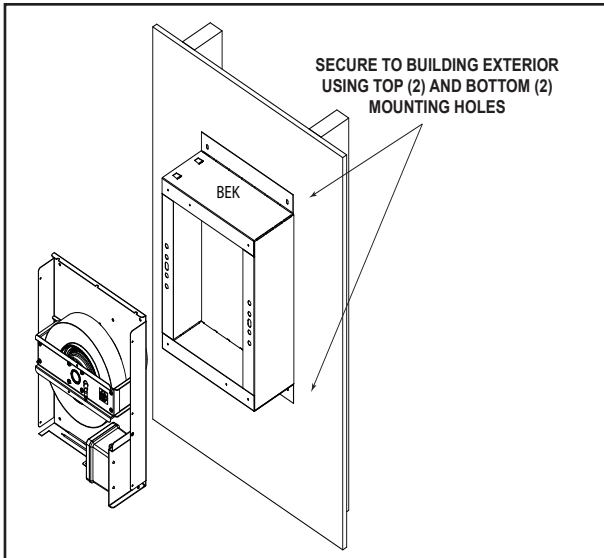
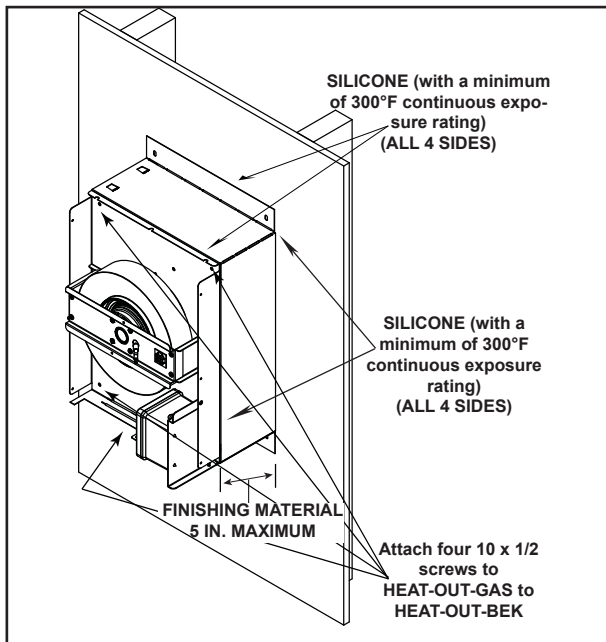
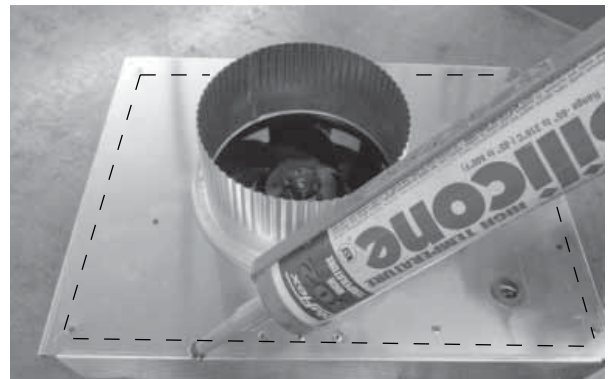

Figure 2.12 HEAT-OUT-GAS Attached to Heat-Out-BEK
Figure 2.13 Silicone Weather Sealing
Figure 2.14
13. Apply a bead of silicone (with a minimum of 300° F continuous exposure rating) around the entire metal flange of the HEAT-OUT-GAS. See Figure 2.14. Align with HEAT-OUT-BEK as shown in Figure 2.12. Ensure cap is level and square, then secure HEAT-OUT-GAS to Heat-Out-BEK as shown in Figure 2.13.
14. After the HEAT-OUT-GAS has been secured to the HEAT-OUT-BEK, silicone (with a minimum of 300° F continuous exposure rating) should be applied around outer edge of HEAT-OUT-BEK where it meets the building exterior. Silicone (with a minimum of 300° F continuous exposure rating) should also be applied where HEAT-OUT-GAS and HEAT-OUT-BEK meet, as shown in Figure 2.13. If installing with HEAT-OUT-BEK skip to step 17.
15. Place a bead of silicone (with a minimum of 300° F continuous exposure rating) on the back side of the mounting flange for the heat-out. See Figure 2.14.